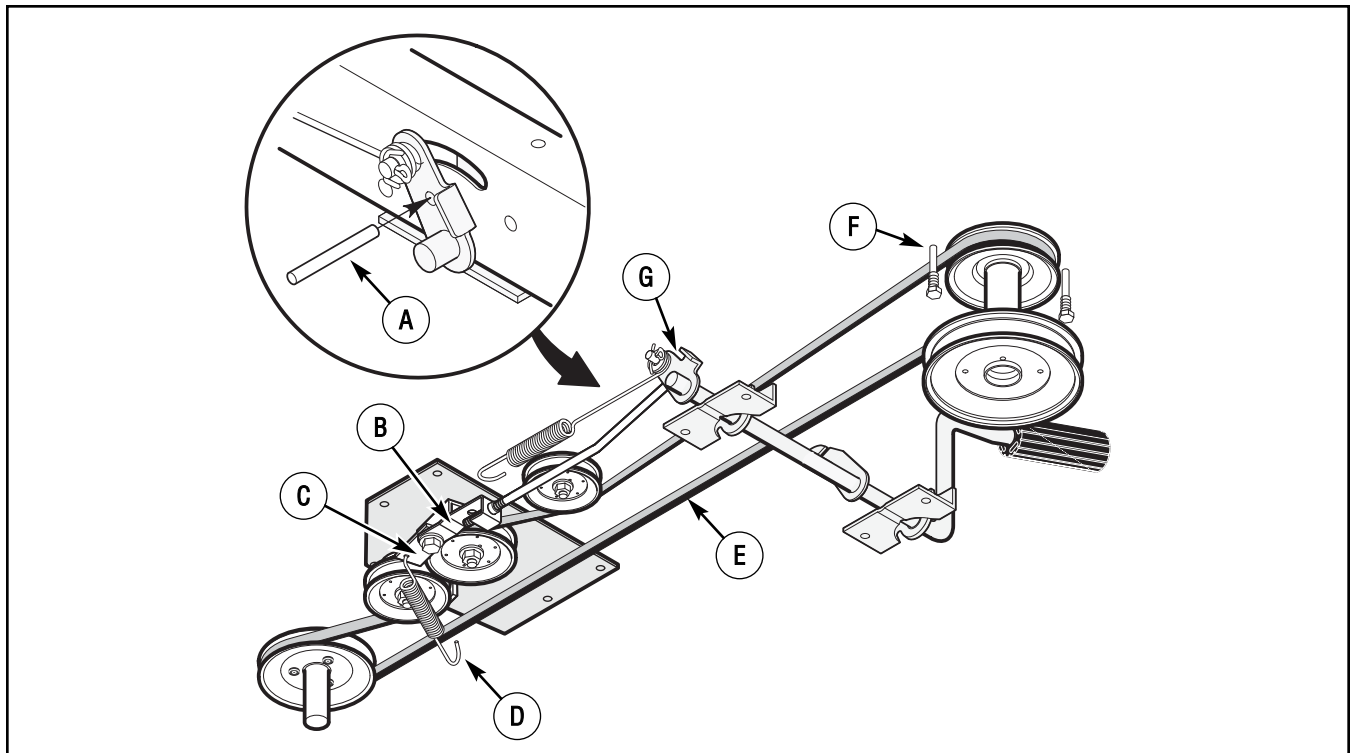

Figure 25: Adjusting motion drive belt
3. Align the hole in the **brake lever** with the hole in the frame. Hold the **brake lever** in place with a **1/4 inch (6 mm) pin or bolt** (Figure 25).
6. Remove the **1/4 inch (6 mm) pin or bolt** (Figure 25).